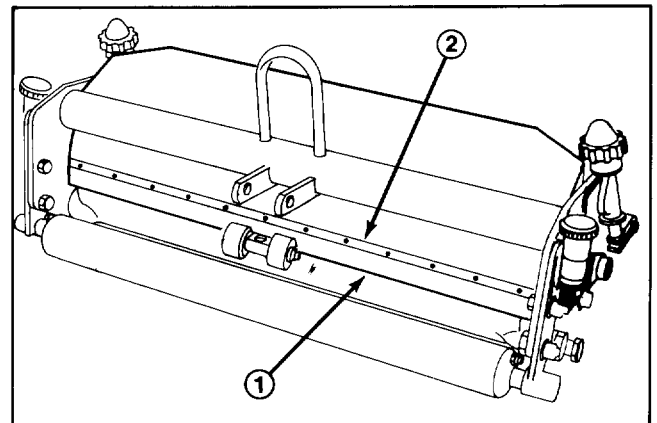

Figure 19
6. To reinstall, slide bedbar into position between sideplates making sure each end of bedbar is under shield (Fig. 19).